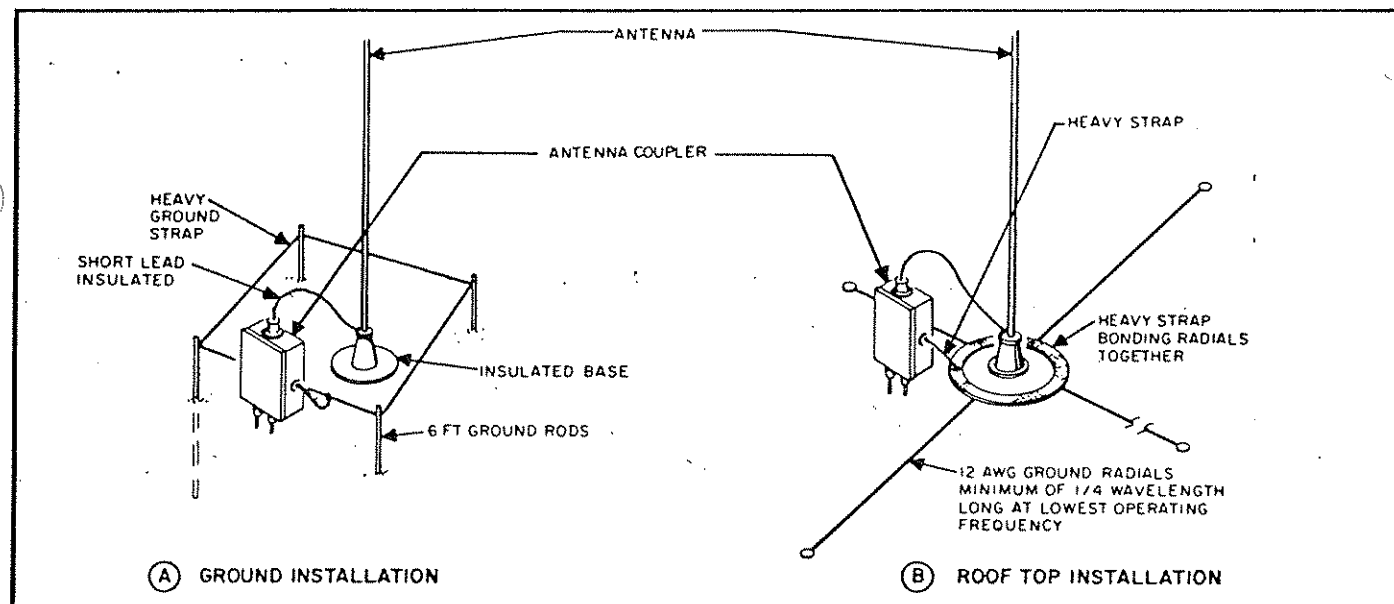

Figure 2.4 WHIP ANTENNA INSTALLATION
- c) When using whip antennas, the ground system actually forms part of the radiating system. Where space permits (such as in a base station installation) a good ground plane or radial system should be installed at the base of the antenna. See Figure 2.4.